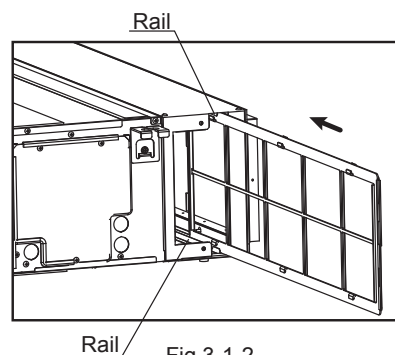

Fig.3-1-2
- (2) Insert the filter that was removed in step 2-1 above along the top and bottom rails. (Fig. 3-1-2)